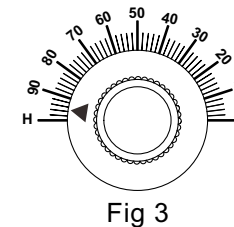

Fig 3
4. Turn the knob clockwise from H position to 90% position about 1/2 circle (95% position) until LED indicator shut off (Figure 3). Then, Initial calibration is complete. After that, please continue to next step "SENSITIVITY ADJUSTMENT".